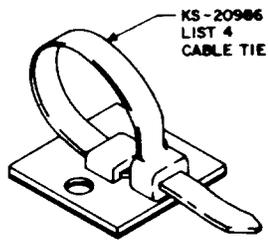

Fig. 13—E Adhesive Cable Tie
6.03 Adhesive cable ties are intended for use where mounting by adhesion may be desirable or the only acceptable means. The E adhesive cable tie (Fig. 13) replaces both the B adhesive cable tie and the C adhesive cable tie.